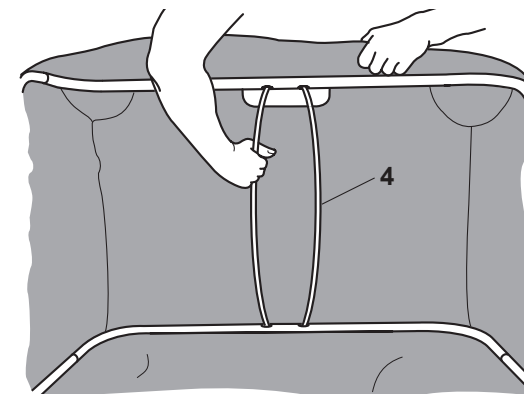

Figure 20
STEP 20: (SEE FIGURE 20)
- Place the hopper support rods (4) into the bag assembly.